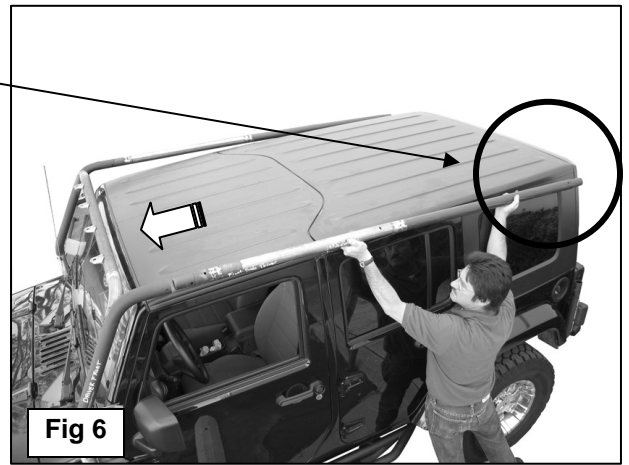

Fig 6
6. **NOTE:** Cover the ends of the Side Rails facing the rear of the vehicle with masking tape to protect the vehicle from damage during assembly. Slide both Side Rails, (with top holes angled towards the outside of the vehicle), into the previously installed Front Legs. Secure the Side Rails to the Front Legs using the included (1) 8mm x 65mm Allen Bolt, (2) 8mm Flat Washers and (1) 8mm Nylon Lock Nut, **(Figure 6)**. Do not tighten hardware.